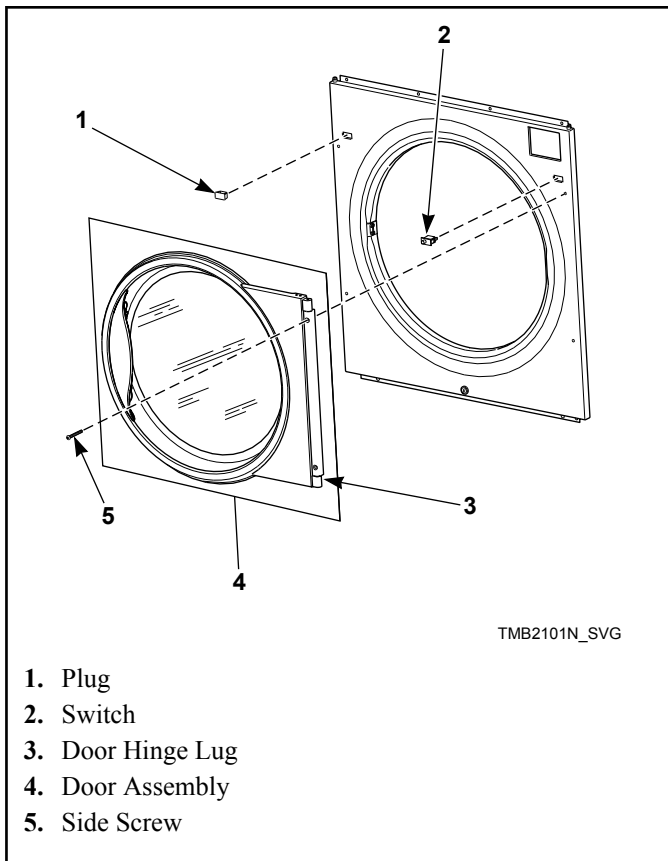

Figure 9
4. Remove four front panel screws. Refer to *Figure 8*. Keep door hinge cams in place on door hinge lug. Pull lug and door assembly off as one piece. Refer to *Figure 9*.
5. Remove remaining front panel screws. Refer to *Figure 8*. Disconnect door switch harness from switch. Take off front panel. Refer to *Figure 9*.
6. Exchange switch and plug locations. Depress tabs with an adjustable pliers to remove plug and switch from front panel. Reinstall switch, orienting button toward center of machine. Reinstall plug in switch's previous location. Refer to *Figure 9*.